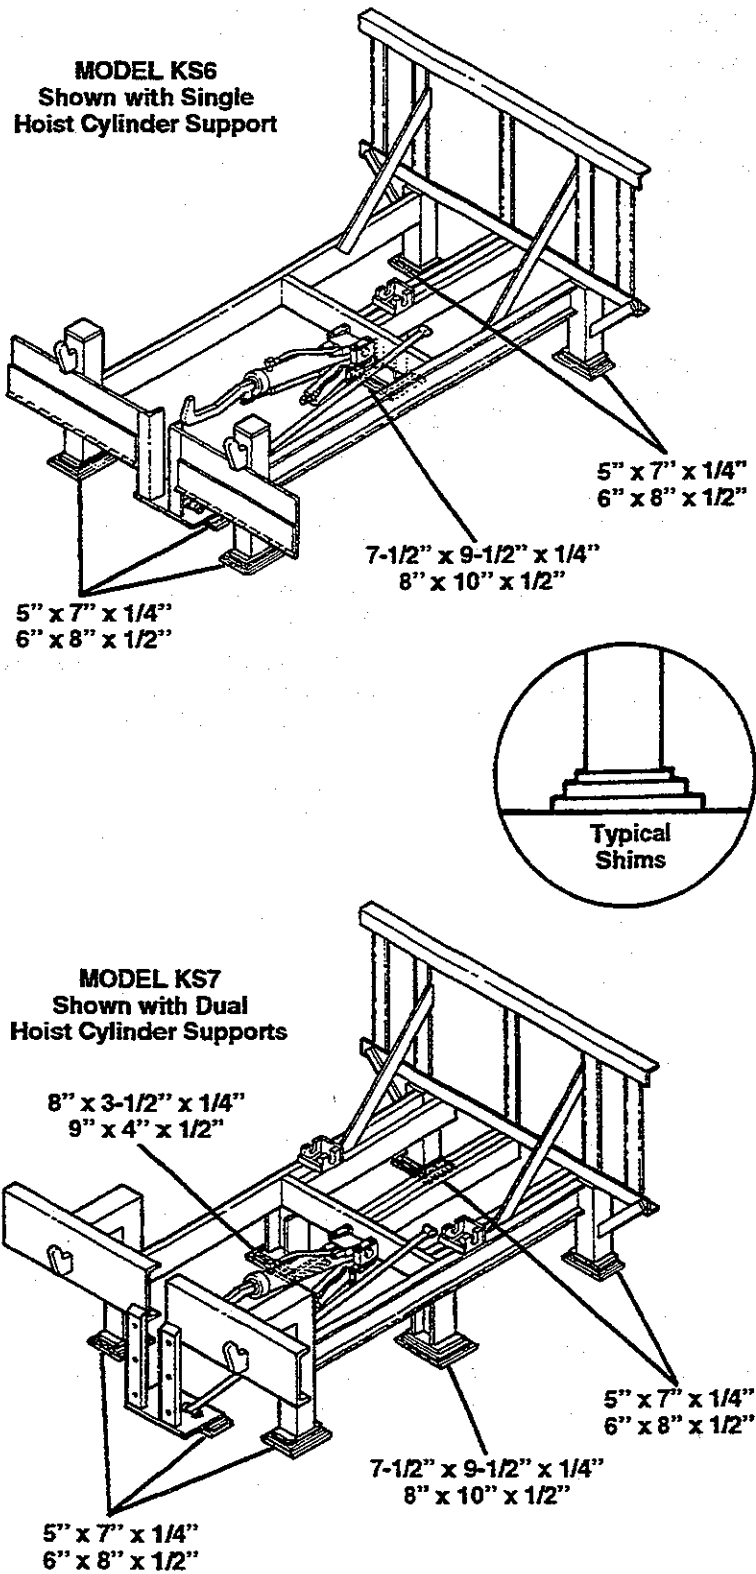

Figure 8
4. Place the shims for the front and rear of the leveler on the imbed plates in the pit floor. Position the shims so that the legs will rest firmly on the shims when the unit is lowered into the pit. Shim so that dimension from top of shims to dock floor is as shown. Recommended shim stock sizes see Figure 8
8. Position shims under the hinge tubes of the maintenance prop so that the front panel support weldment is level. Recommended shim stock sizes see Figure 8
17. Refer to Figure 8.